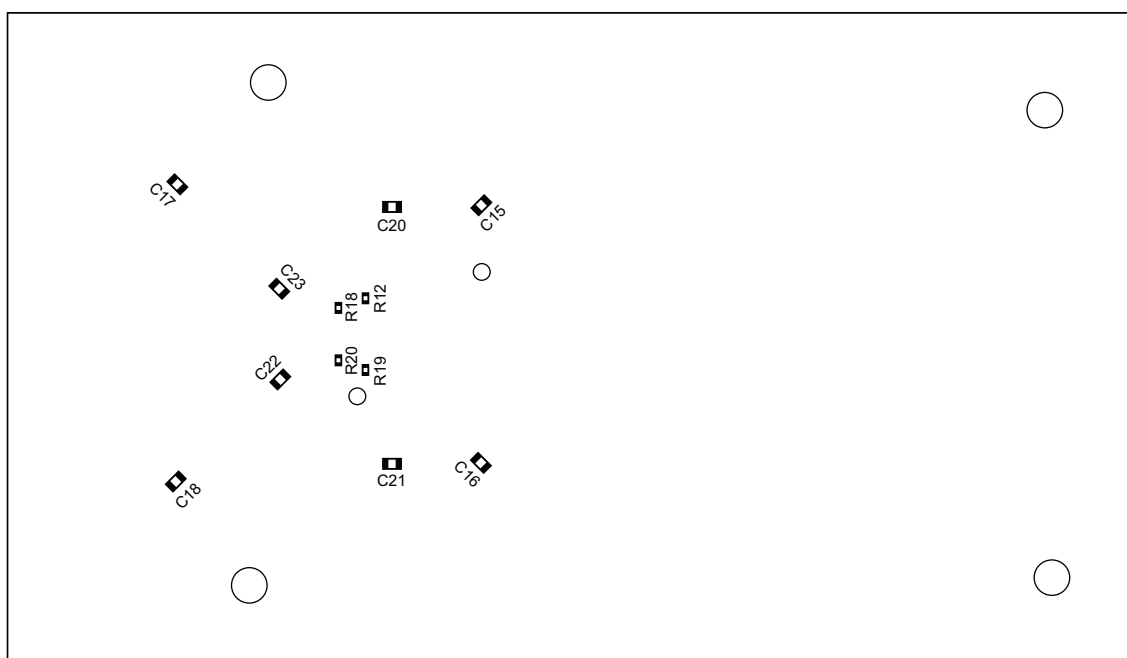

**Fig 35. Schematic**
See Figure 35, Figure 36 and Figure 37.
**Table 12. List of components**See Figure 35, Figure 36 and Figure 37.
**Table 12.** List of componentsSee Figure 35, Figure 36 and Figure 37.